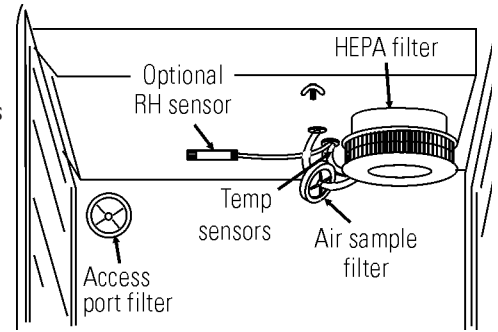

Figure 5-1. Sensor and Filter Locations
1. Remove the shelves, access port filter and side duct sheets. Remove the temperature sensors and the air sample filter tubing from the back of the blower scroll. If unit is equipped with the optional RH sensor, unfasten it from the clip on the top duct. See Figure 5-1.